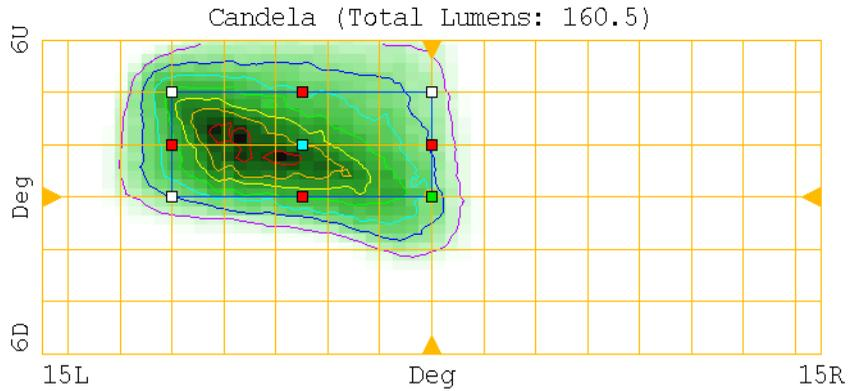

Figure 1.15 New location of segment aim box after move
- 3 Move the aim box to its new location, shown in Figure 1.15, and click.